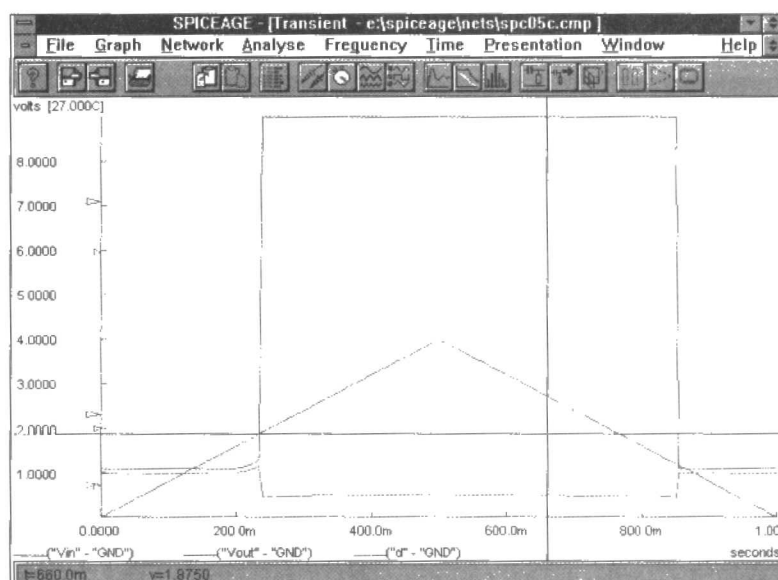

Figure 5: the behaviour of the thermostat circuit as input voltage is ramped up and down
Figure 5 shows the voltage input to the thermostat circuit and its output at the collector of Q2. At first, with 0V input, Q1 is off. This pulls up the voltage at its collector, turning Q2 on. This pulls down the output at the collector of Q2. When Q2 is on, the current through R6 produces 1V at the emitter. Consequently, the emitter of Q1 is at 1V and the base of Q1 needs to be at 1.6V before it can be turned on. The horizontal cross-hair in figure 5 shows that Q1 turns on as  $V_{in}$  reaches 1.875V (there is a voltage drop across R1). This turns Q2 off and  $V_{out}$  rises sharply to 9V. In one possible application of this circuit R5 is the coil of a relay controlling a heater. The action just described turns off the relay when the temperature exceeds the upper threshold. Turning off Q2 reduces the current through R6 and the voltage across it is reduced to
0.47V. This puts the base of Q1 at 0.47V and Q1 can not be turned off until its base falls below 1.07V, the lower threshold. Figure 5 confirms this, showing that Q1 is not turned off until  $V_{in}$  has reached 1.1713V. This illustrates the two features of a Schmitt trigger:
The problem now is to match the values of  $V_{in}$  that we obtain from the simulation with the values we have calculated for the thermistor/Rfix potential divider. The first step is to try to match the hysteresis. For the thermistor it is  $1.39 - 1.15 = 0.24V$ . For the circuit as shown by figure 5, it is  $1.875 - 1.1713 = 0.704V$ . We have to reduce the hysteresis of the circuit. The main cause of hysteresis is the change in voltage across R6, so we can try the effect of reducing R6. Try altering the value of R6 in the netlist and re-running the transient analysis. On a breadboard, substitute a resistor of lower value for R6 and re-measure the thresholds. After trying various values, we arrived at 22R. Bearing in mind that the simulation is intended to represent a real circuit, we like to keep to standard E24 values as far as possible, to make it easier to translate it into hardware later. When R6 is 22R, the analysis produces a plot very similar to figure 5, but with different thresholds, 1.28V and 0.96V, giving a hysteresis of 0.32V. This is much nearer to the desired 0.24V but not near enough yet. We tried reducing R6 further but then ran into one of the problems inherent in simulators.